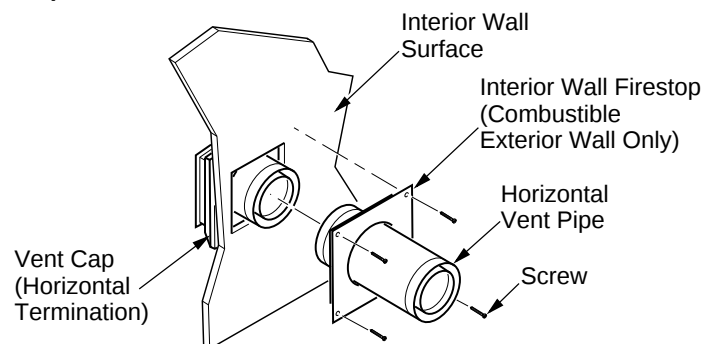

Figure 27 - Connecting Vent Cap with Horizontal Vent Pipe
7. **Combustible Exterior Wall Only:** Slide the wall firestop against the interior wall surface and attach with screws provided (see Figure 27).
5. **Combustible Exterior Wall Only:** Slide the interior wall firestop over the vent pipe before connecting the horizontal run to the vent cap (see Figure 27).